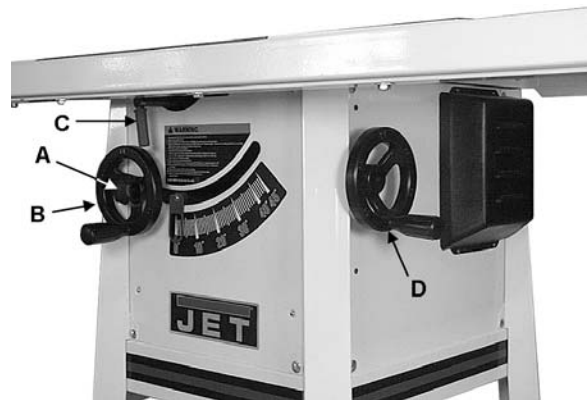
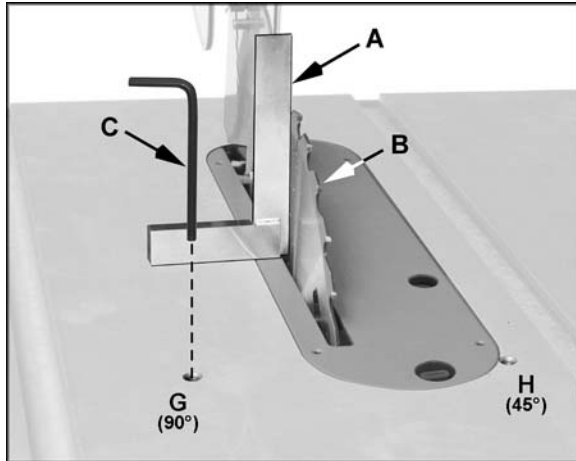

Figure 23
Figure 24
Referring to Figure 23:
3. Set blade 90° to table by turning blade tilting handwheel (D, Figure 23) counterclockwise as far as it will go. Do not force beyond stop.
4. Place a square (A, Figure 24) on the table and verify that blade (B, Figure 24) is at 90° to table. Make sure that the square is not touching a blade tooth.
5. Back out the 90° adjust setscrew (G, Figure 24) counterclockwise one or two turns with 4mm hex key (C, Figure 24).
7. Tighten the 90° adjust setscrew (G) until it stops, but do not force.
8. Set blade at 45° to table by turning the blade tilting handwheel clockwise (D, Figure 23) as far as it will go. Do not force beyond stop.